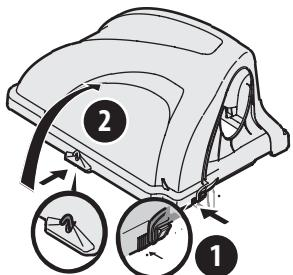

Figure 11
7. Open hood by pushing in on the rear, right-side tab with your right hand, as seen in (1) of Figure 11, and lifting the cover with your left hand in the center rear of the bagger cover (2).